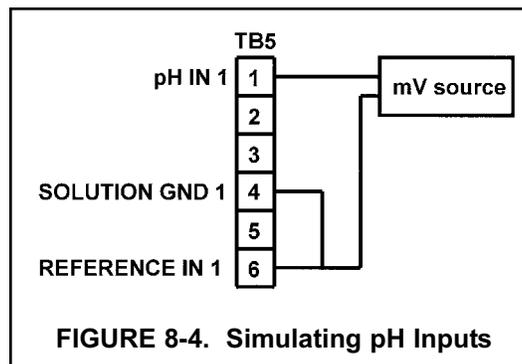

FIGURE 8-4. Simulating pH Inputs
4. If a standard millivolt source is available, disconnect the jumper wire between pH IN and REFERENCE IN and connect the voltage source as shown in Figure 8-4. Be sure to jumper the reference and solution ground terminals.